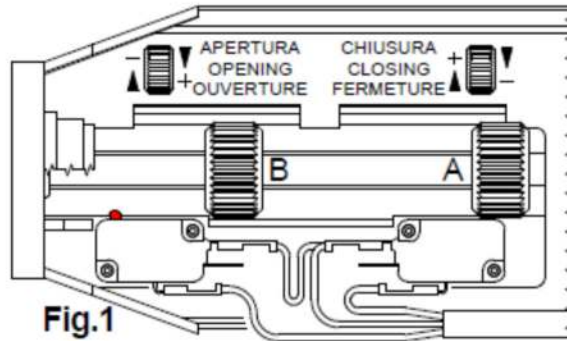
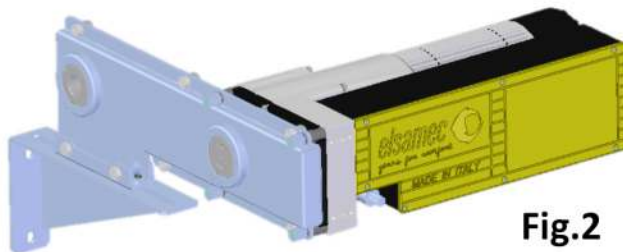
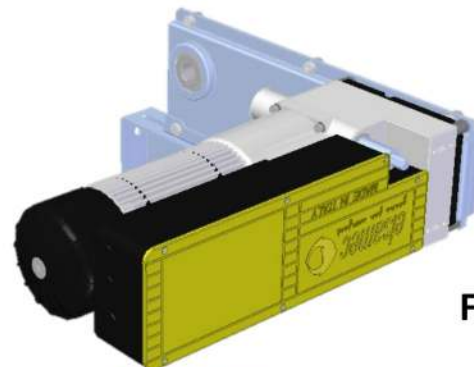

Fig.1
Fig.2
Fig.3
1) Closing stroke set up: insert a 2.5 mm hexagonal wrench (Fig. 1) in the appropriate seat of the closing cam (Fig. 2) and rotate clockwise, positioning the cam in contact with the closing microswitch in order to fix the contact button beyond the center line of the cam (Fig. 3), thus ensuring a slowing stroke of the door before it stops.
1) Closing stroke set up: position the right knurled wheel (A) in contact with the closing microswitch in order to have the contact button positioned beyond the center line of the wheel (Fig. 1), so it's possible to have a slowing stroke of the door before it stops. This operation must be carried out with the door completely closed. For any subsequent corrections, use the same wheel according to the directions indicated by the arrows (+ or -).
the above is valid if the electroreducer is installed to the left of the door (looking from the inside ref. Fig. 2).
If the electroreducer is installed to the right of the door (looking from the inside, ref. Fig. 3), proceed as described above, bearing in mind, however, that the direction of rotation of the shutter will be opposite to the data on the limit switch cover.